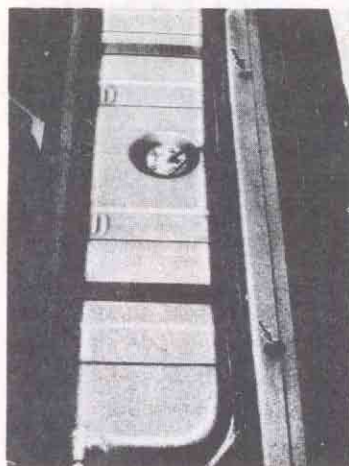

Fig. 56—Folding Top Compartment With Bottom Removed
2. Remove top compartment bottom board retaining screws and remove bottom board (fig. 56.)
3. Holding upper stem from turning, remove upper shock absorber retaining nut through hole in frame cross member indicated by arrow (fig. 56), then remove upper grommet retainer, grommet, and lower grommet retainer from shock absorber upper stem.